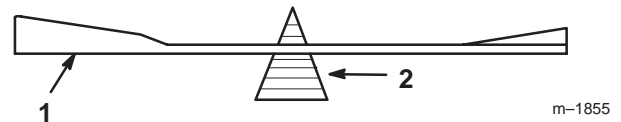
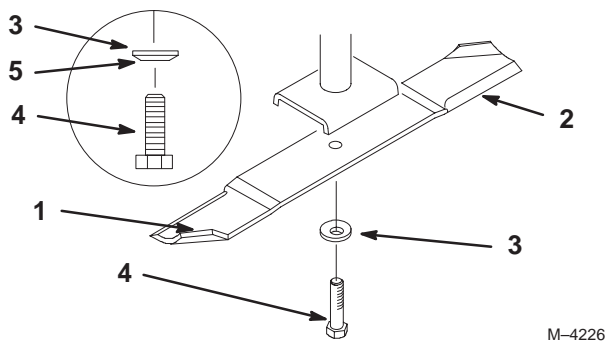

Figure 33
Figure 34
1. Hold the blade end using a rag or thickly-padded glove. Remove the blade bolt, spring disk and blade from the spindle shaft (Fig. 34).
2. Check the balance of the blade by putting it on a blade balancer (Fig. 33). If the blade stays in a horizontal position, the blade is balanced and can be used. If the blade is not balanced, file some metal off the end of the sail area only (Fig. 34). Repeat this procedure until the blade is balanced.
1. Install the blade onto the spindle shaft (Fig. 34).
2. Install the spring disk and blade bolt (Fig. 34). **Torque the blade bolt to 85–110 ft.-lb. (115–150 N•m).**